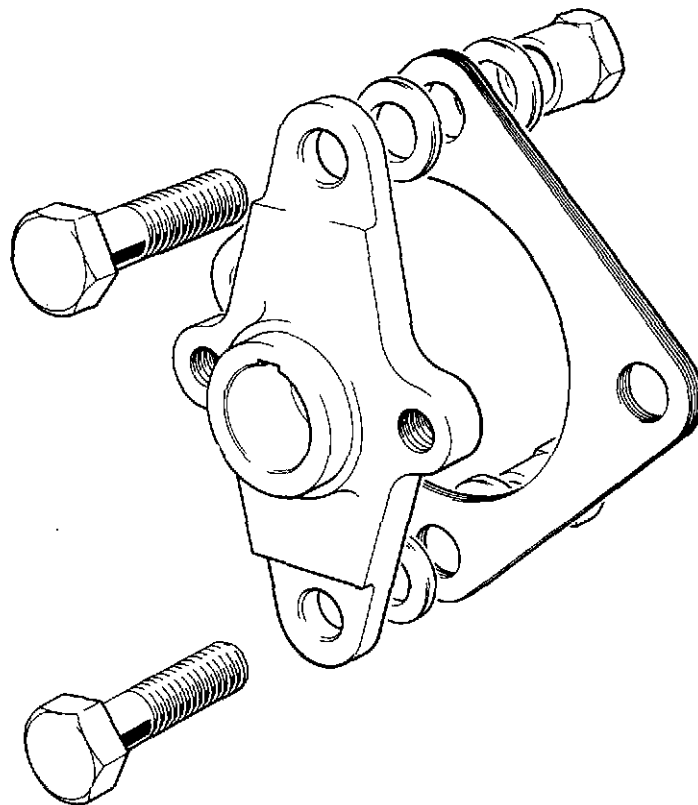

Fig. 10 Auxiliary drive flange
- 2 Remove the two long reach nuts from the auxiliary drive flange spring plate coupling (fig. 10), and withdraw the two coupling bolts towards the wheelcase.